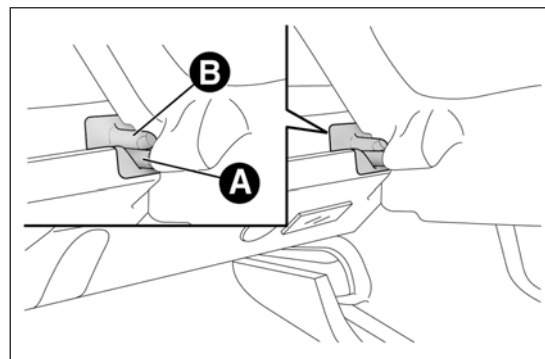

fig. 63
- ❑ free the pins A fig. 63 on the outside of the shelf from the housings B in the side mountings, then remove the parcel shelf;